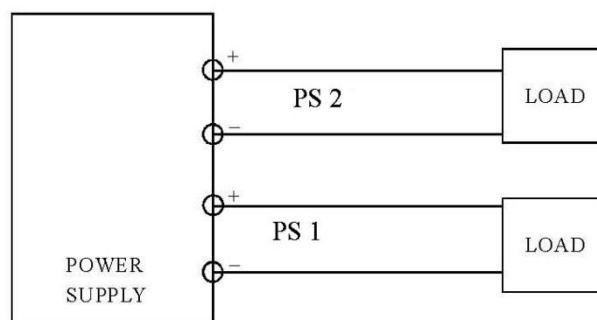

Fig 4-1 Independent operation
- (1) Fig 4-1 illustrates connecting the loads when the supply is in the independent mode.